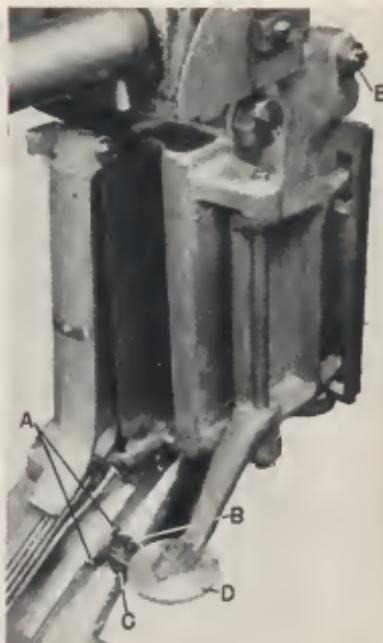

Fig. 2—Spring plate assembly.
Remove screw (C) and apply spring plate assembly. Make sure that right-hand jaw adjusting screw which is a part of this assembly is backed out far enough so that it does not cramp right-hand jaw. Tighten the two $\frac{1}{2}$ in screws (B) and (C). Insert and tighten two small fillister head screws through spring plate lever into slug bed at points (A) Fig. 2.
Set point setting ring on Corrector to 6 point and dial (D) Fig. 2 on spring plate lever to 0. Loosen lock nut (C) and turn eccentric screw (B) until opening between left-hand side knife and spring plate will clear 6-point untrimmed slug. Tighten lock nut securely.
The lower saw slug stop (A) Fig. 4, is adjusted at the factory to the proper position, but the adjustment should be checked at this point, as follows. Set the right-hand jaw adjusting screw (E) Fig. 2 so that a line will cast. Allow the line to progress through the Corrector and inspect the slug. The lower saw should remove just enough metal to square up the right-hand end of the slug. If the cut is not correct, the stop may be adjusted by moving lower saw carriage upward, loosening the lock nut on the end of the stop stud and turning the nut (B) Fig. 4, then tightening the lock nut.
molds and making sure that all are firmly seated against right-hand end of pockets. Cast slugs with a capital "O" on the end of the line. Inspect slug after trimming and adjust right-hand jaw adjusting screw (E) Fig. 2 until the character is exactly flush with the end of the finished slug, neither bleeding nor leaving a shoulder.